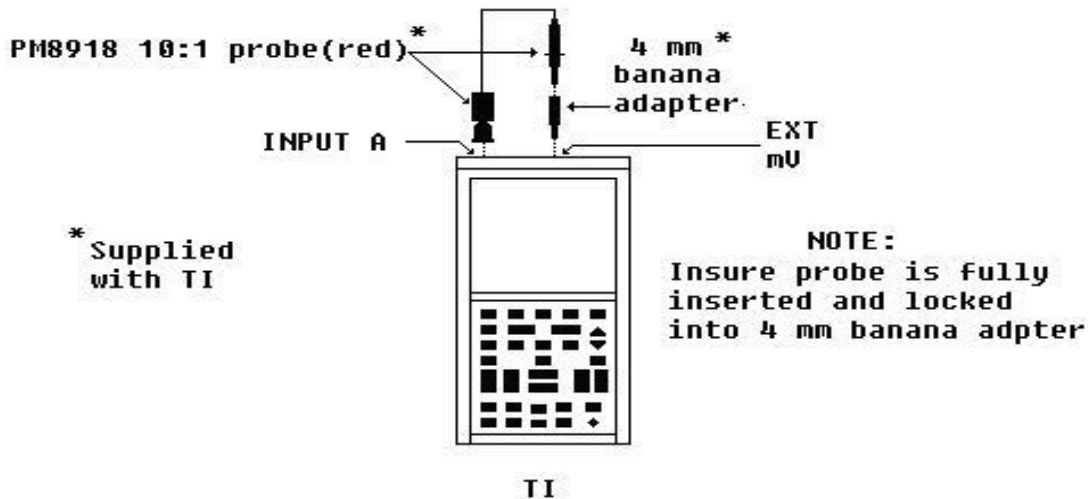

Figure 14. 10:1 probe for INPUT A.
(63) Voltage ramp and 1:1 probe for **INPUT A** by pressing pushbuttons sequence (a) through (d) below:
(64) Displayed "Calibration has been completed successfully", then press **(F1) CLOSE**.
(65) Disconnect BNC cable from **INPUT A** and reconnect it to **INPUT B**.
(66) Select 1:1 probe for **INPUT B** by toggling **▲ or ▼** to display/highlight (**▲ or ▼ CAL 22**).
(67) Press **(F5) READY**, then wait till display/highlight **READY** is not highlighted.
(68) Displayed "Calibration has been completed successfully", then press **(F1) CLOSE**.
(69) Connect equipment as shown in figure 14 below:
(70) Select 10:1 red probe for **INPUT A** by toggling **▲ or ▼** to display/highlight (**▲ or ▼ CAL 19**).
(71) Press **(F5) READY**, then wait till display/highlight **READY** is not highlighted.
(72) Displayed "Calibration has been completed successfully", then press **(F1) CLOSE**.
(73) Disconnect PM8918 10:1 red probe from **INPUT A**.
(74) Connect equipment as shown in figure 14, but use the PM8918 10:1 grey probe to **INPUT B** side.
(75) Select 10:1 grey probe for **INPUT B** by pressing **▲ or ▼** to display/highlight (**▲ or ▼ CAL 20**).
(76) Press **(F5) READY**, then wait till display/highlight **READY** is not highlighted.
(77) Displayed "Calibration has been completed successfully", then press **(F1) CLOSE**.
(78) Disconnect PM8918 10:1 gray probe from TI.